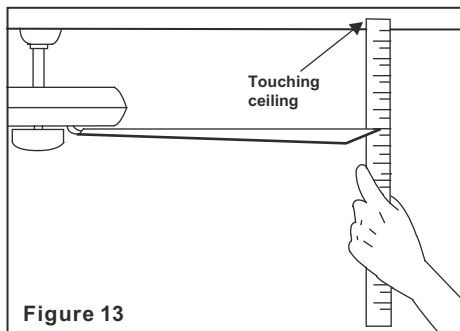

Figure 13
2. Most fan wobbling problems are caused when blade levels are unequal. Check this level by selecting a point on the ceiling above the tip of one of the blades. Measure this distance as shown in Figure 13. Rotate the fan until the next blade is positioned for measurement. Repeat for each blade. The distance deviation should be equal within $1/8"$.